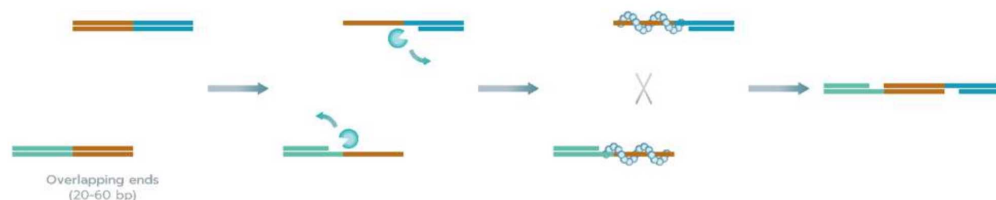

Figure 2. OriCiro Assembly
**1. OriCiro Assembly Kit:** Multiple DNA fragments are assembled seamlessly at 42 °C for 30 minutes via ~40 bp overlapping ends (*Figure 2*). DNA fragments generated by PCR or restriction enzyme digestion are available. Our unique enzyme-based annealing mechanism allows powerful assembly up to 50 fragments simultaneously.